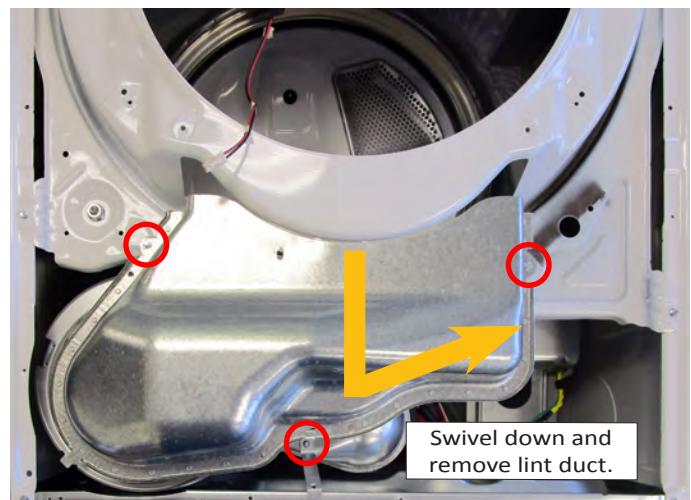

Figure 3 - Remove lint duct screws.
6. Remove the three (circled) 1/4" hex-head screws from the lint duct as illustrated in Figure 3. Swivel the lint duct down from the bulkhead and remove.